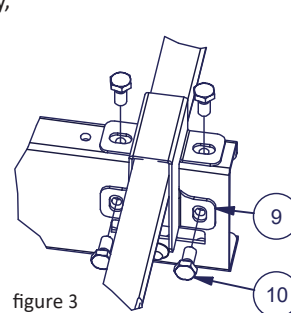
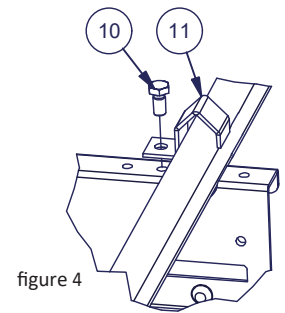

figure 3
figure 4
Place EPDM sealant strip or alternatively Pisko 2+1 sealants (1) (2/fastener) to the bottom of the Pisko MultiFast fastener (2) and attach them loosely to the ladder with Pisko MultiFast stile brackets (9)(4 x M8x16/-fastener). Maximum distance between fasteners is 1400 mm (figure 3). The top and bottom MultiFast fasteners of the ladder should be fixed with stile brackets (9). Brackets in between can be fixed to the ladder with Pisko MultiFast stile bracket, easyfix (11) (figure 4).